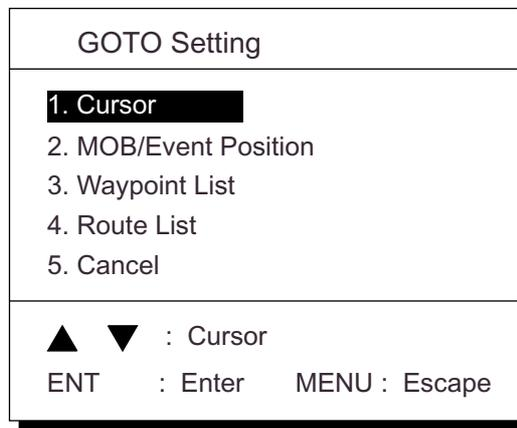

Figure 5-2 GOTO setting menu
1) Press the [GOTO] key. The menu shown in Figure 5-2 appears.